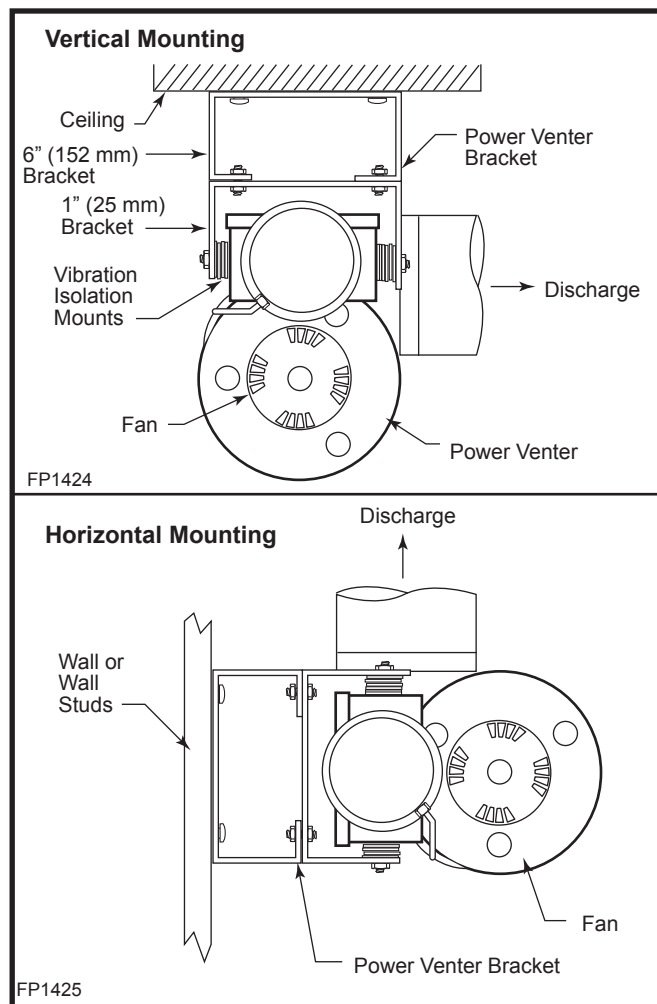

Fig. 8 Power venter mounting options.
- a. Remove vibration isolation mount and retain the nut from the parts bag and install. Install on Power Venter as shown in diagram. Next install flexible duct piece and outlet collar using four (4) screws to fasten.
- b. To prevent vibration, securely support Power Venter from ceiling or joist with Power Venter bracket. (Fig. 8)